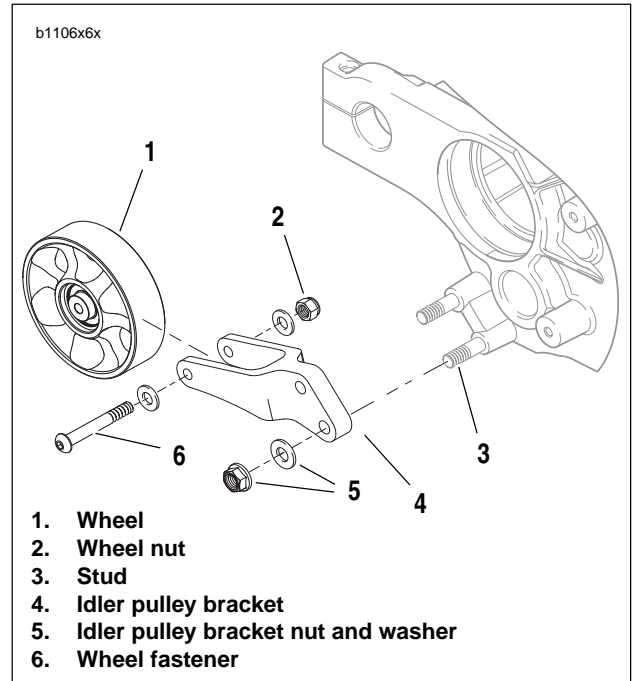

Figure 1-43. Idler Pulley Assembly
5. See Figure 1-43. Remove idler pulley bracket nuts and washers (5) from studs (3).
6. Slide idler pulley bracket (4) off studs (3).
- Inspect pulley by spinning wheel (1) and checking for wheel bearing wear.
- If pulley wheel needs replacement, remove fastener (6), washer and nut (2) from idler pulley bracket (4) and discard wheel. Replace with **new** pulley wheel (1).
- See Figure 1-43. Install new or existing pulley wheel (1), if removed, and tighten washer and nut (2) wheel fastener (6) to 20-23 ft-lbs (27.1-31.2 Nm).
- Slide idler pulley bracket (4), washer and nuts (5) on to studs (3) and tighten to 33-35 ft-lbs (45-47 Nm).